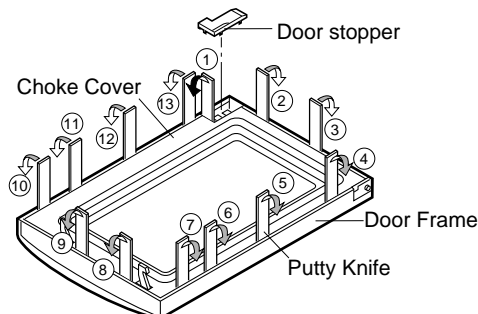

Figure C-8. Door Disassembly
3. Insert an putty knife (thickness of about 0.5mm) into the gap between the door stopper and the choke cover to free engaging parts as shown in Figure C-8.
6. Release two (2) pins of door panel from two (2) holes of upper and lower oven hinges by lifting up.
8. Insert an putty knife (thickness of about 0.5mm) into the gap between the choke cover and door frame as shown in Figure C-8 to free engaging parts.
9. Try the principles of the lever and lift up the choke cover by inserting a putty knife as shown Figure C-8.